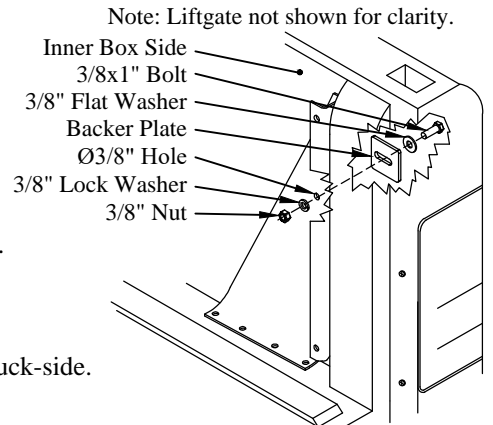

Figure 13: Additional support location.
1. **Locate** the existing 3/8" hole in the mounting bracket (Figure 13).
4. **Fasten** the mounting bracket to the inner box side using the supplied (Figure 13):